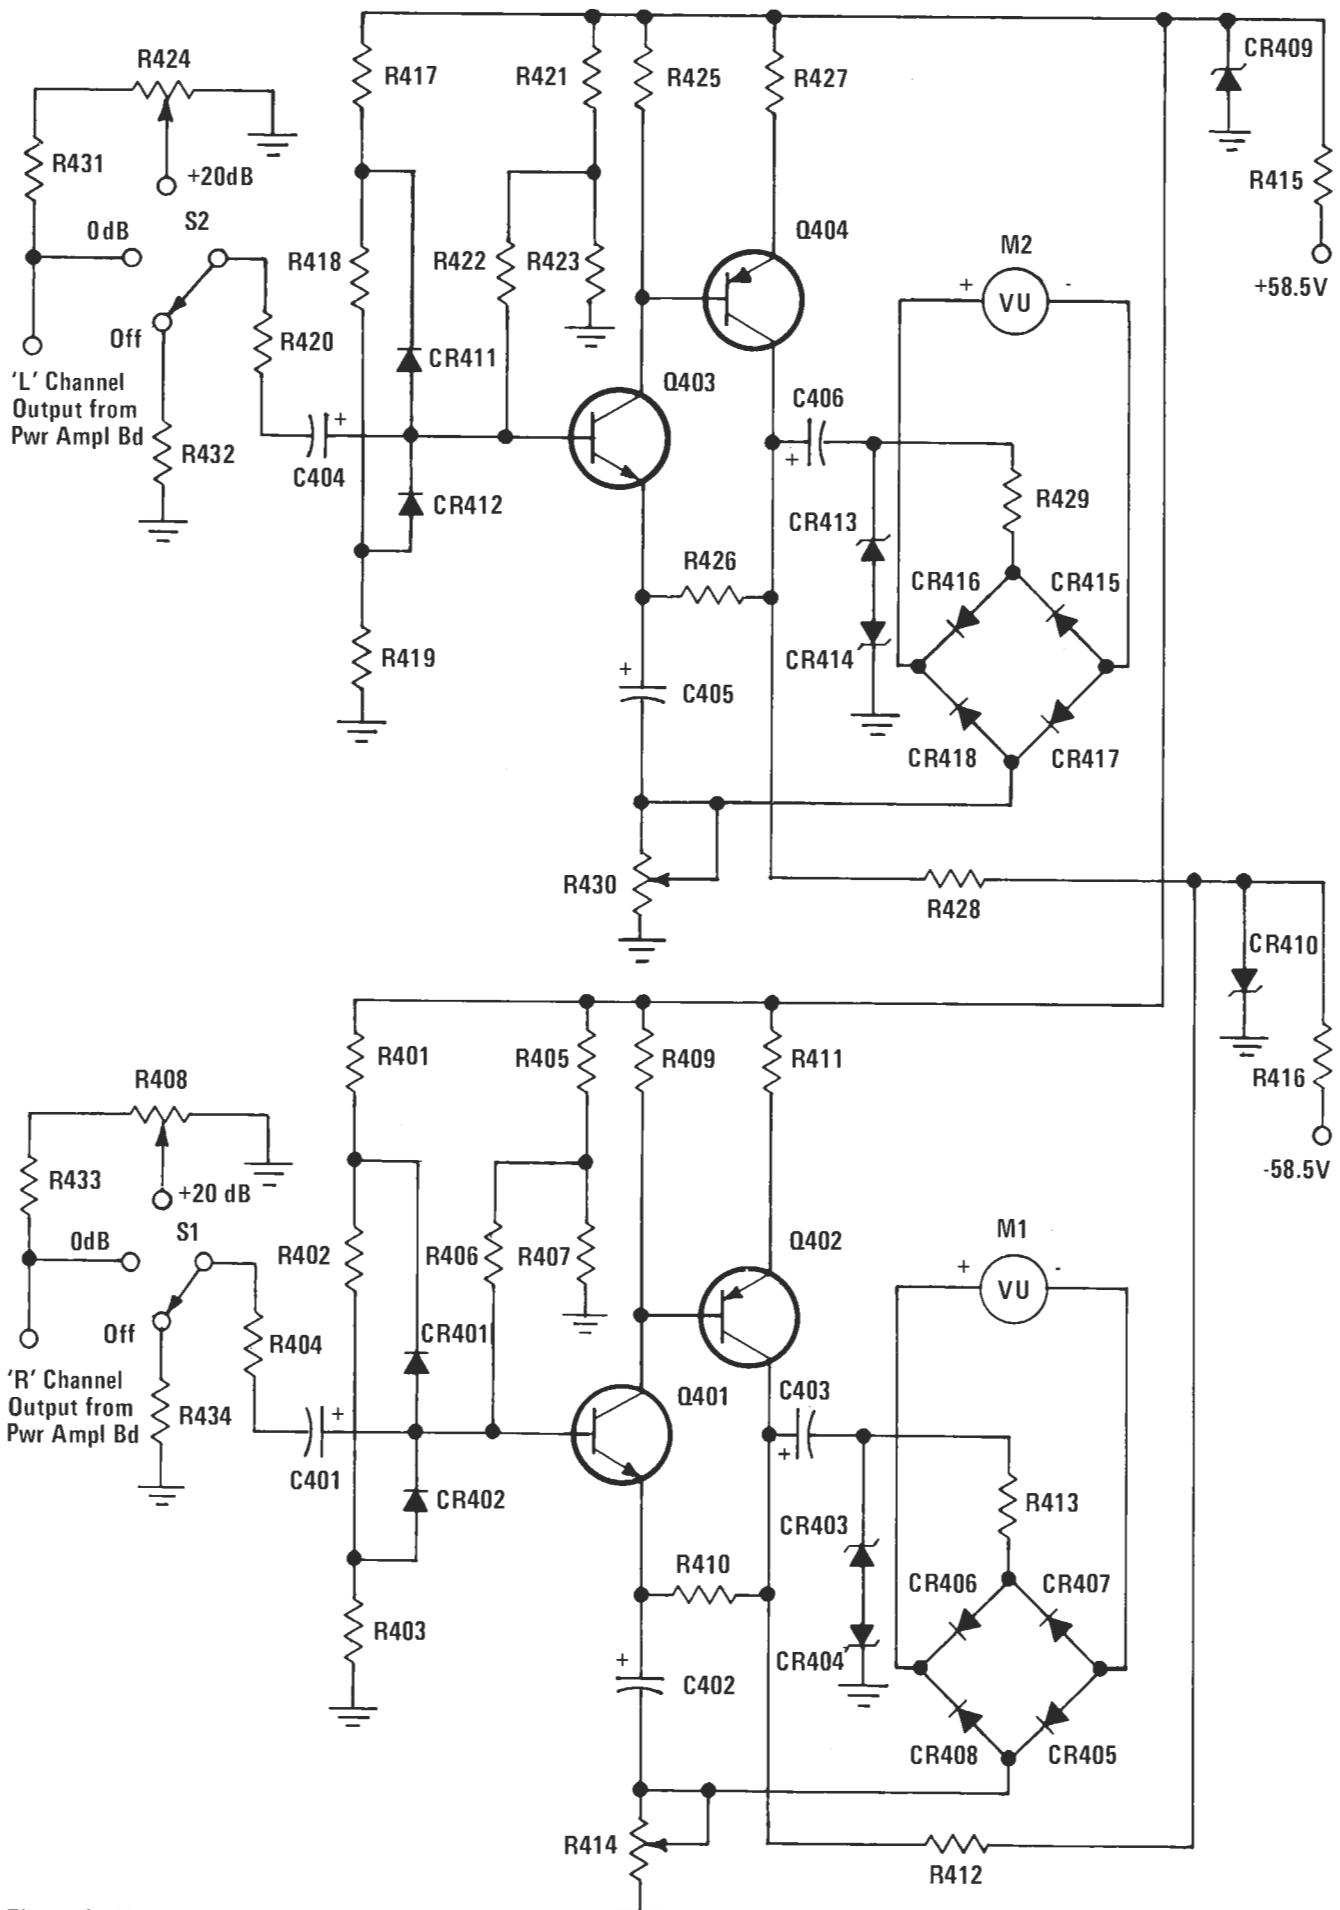
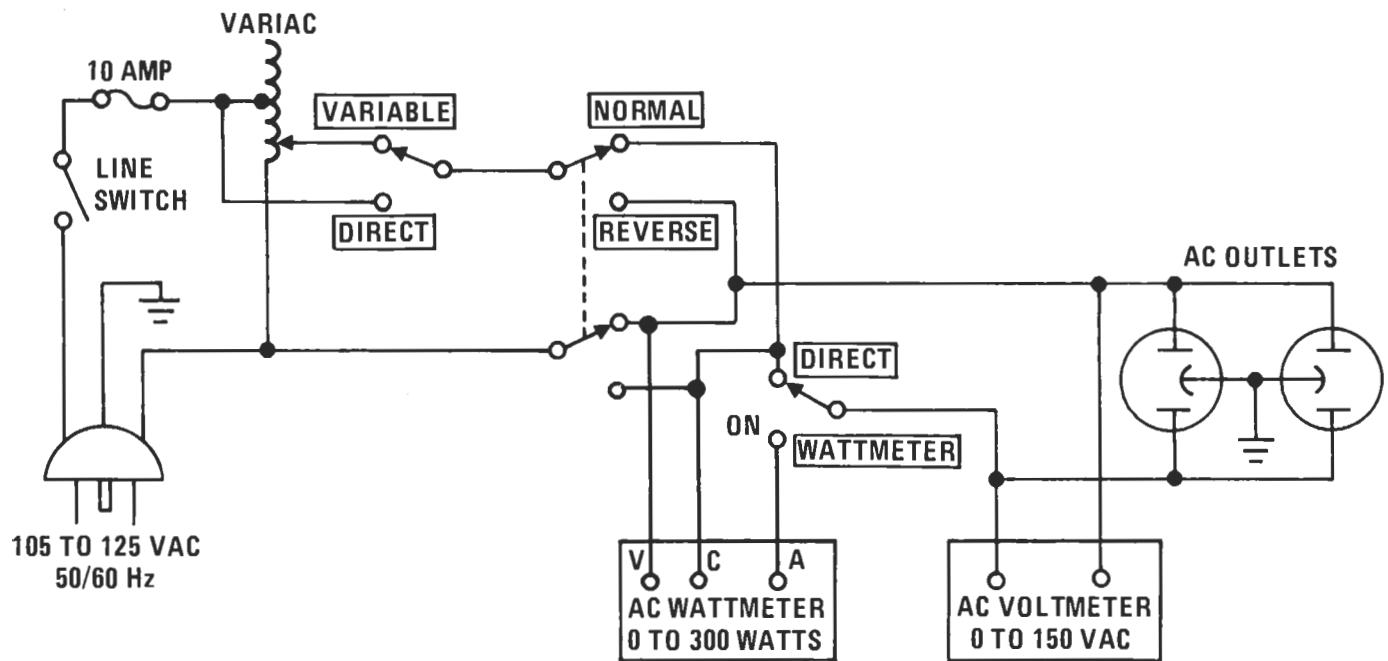

Figure 3. Metering Circuit Simplified Schematic
Figure 4. AC Power Control Box Simplified Schematic
- Replace Figure 3. (Metering Circuit Simplified Diagram) with Figure 3 contained herein.
Page 7— In Table 1, for "AC Power Control Box," replace "Fabricate in accordance with Figure 3." with "Fabricate in accordance with Figure 4.;" for "Amplifier Output Load Box," replace "Fabricate in accordance with Figure 4." with "Fabricate in accordance with Figure 5."
- Page 10— Replace Figure 4. (AC Power Control Box Simplified Schematic) with Figure 4. contained herein.